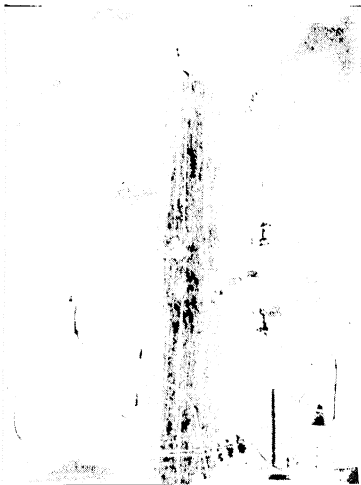

FIG. 23-20. Link type of fuse cutout used on a rural line. (Courtesy James R. Kearney Corp.)
**Transformer Protection.** The step-down transformers are generally protected by some type of fuse arranged so that it can also be used as a disconnect switch or "cutout." The cutout is lifted out in case the fuse needs to be replaced or in case it is necessary to disconnect the transformer from the hot line. Two types of cutout-fuse installations are shown in Figs. 23-20 and 23-21.